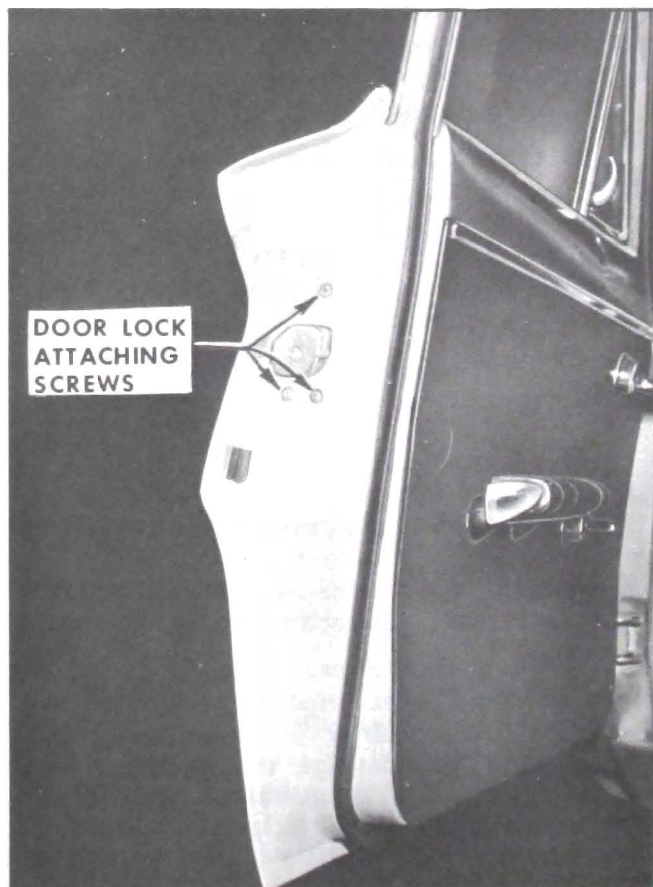

Figure 13-44—Door Lock Adjustment
4. Remove door lock attaching screws and remove lock assembly through inner panel access hole. See Figure 13-44.